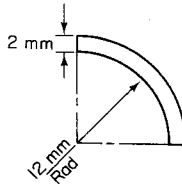

Fig. 1.37
**Example.** Find the bend allowance needed for the radius shown in Fig. 1.37.